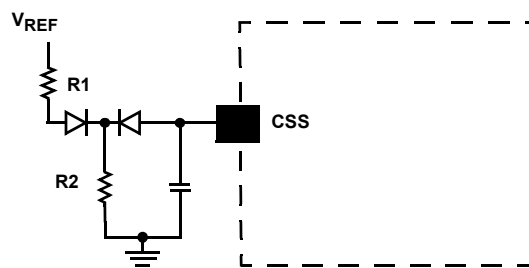

FIGURE 4. REFERENCE-BASED CLAMP CIRCUIT
- Per Equation 3, the clamping voltage is a function of the charge current  $I_{ss}$ . For a more predictable clamping voltage, the CSS pin can be connected to a reference based clamp circuit, as shown in Figure 4. To make the  $V_{clamp}$  less dependent on the soft-start current ( $I_{ss}$ ), the currents flowing through  $R1$  and  $R2$  should be scaled much greater than  $I_{ss}$ . The relationship of this circuit can be found in Equation 4.